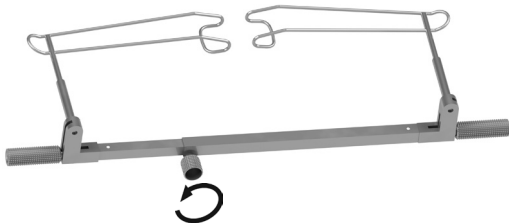
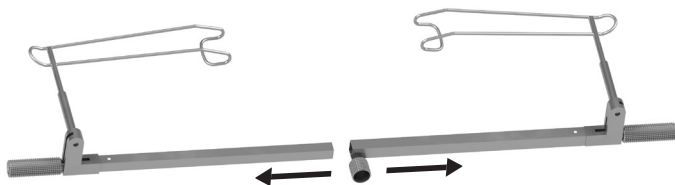

Fig. 2
Fig. 3
- Loosen the locking screw according to fig. 2.
- Remove exterior bar carefully from the interior bar (fig. 3).
- Disassemble the Schott Eye Speculum according to fig. 2 and fig 3.
- Assemble the *Schott* Eye Speculum according to figs. 2 and 3 in reverse order.